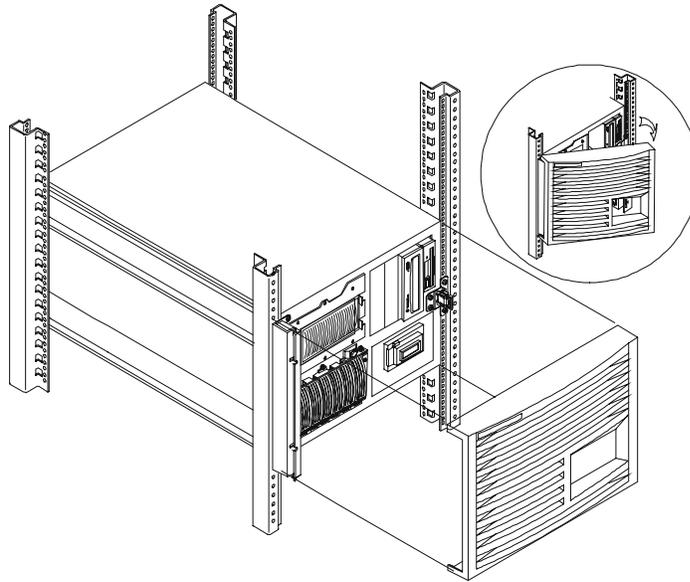

Figure 3-2. Removing the HP NetServer LH 6000r Bezel
2. Remove the bezel from the front of the NetServer by swinging the bezel open (past 90 degrees) until it releases from the three posts on the bezel hinge (see Figure 3-2).